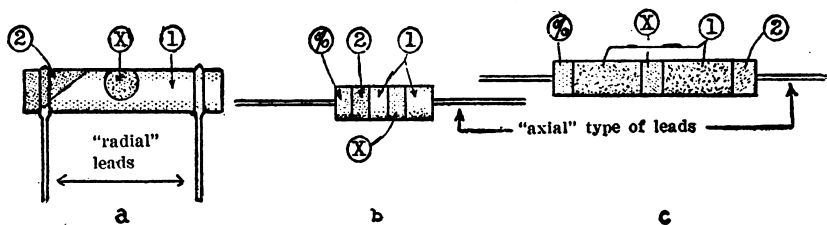

FIGURE 39.
There are in use two distinct systems for color-coding the values of small fixed composition resistors and, although the first, or "old system," is now obsolete for all resistors except those having "radial" connecting leads (see fig. 39 (A)), many resistors having this type of marking are still in use. The original system consists of painting the entire resistor with a solid *body color* to indicate the first significant figure of the resistance value, which is always expressed in ohms. At one end of the unit, and painted right over the body color, is the *end color* which indicates the second figure. Near the middle of the unit, also painted on top of the body color, is the *dot color* which serves as the decimal multiplier, and consists of a large dot or a band of color. Resistors employing this system of arranging the